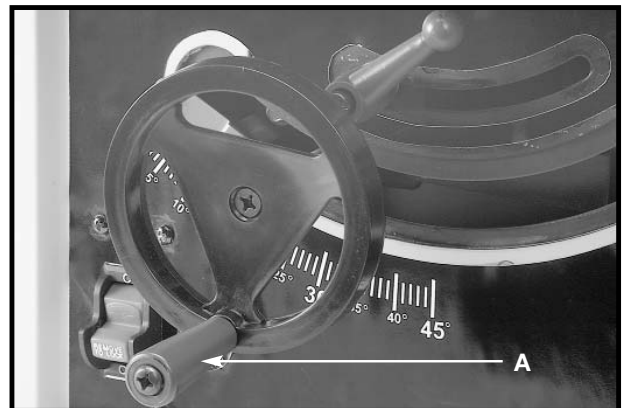

Fig. 31
To adjust the height of the saw blade, turn the handwheel (A) Fig. 31. Turning the handwheel clockwise lowers the blade and turning the handwheel counter-clockwise raises the blade.